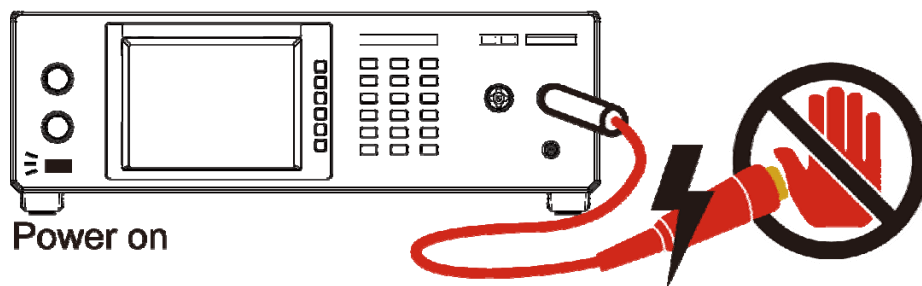

Figure 3-3 Don't touch here when outputs high voltage
- ※ When the main unit is under test status, please don't touch alligator clip on test cable. Because the insulation of plastic layer is not enough, touch it may cause hazard as Figure 3-3 shown.